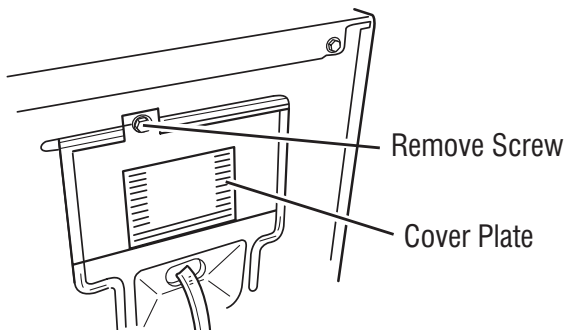

Figure 1 - Remove the cover plate (appearance may vary).
2. Remove the cover plate from the top right corner of the back of the dryer. See figure 1.